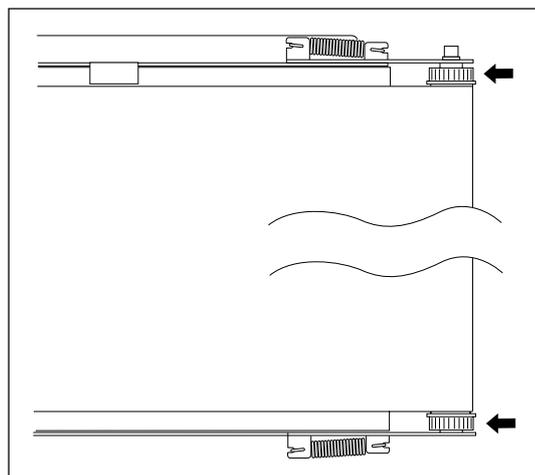

Fig. 9
(See Figures 9, 10, and 11.)
1. Push the sheet roller section toward the inside as shown in Figures 9 and 10.